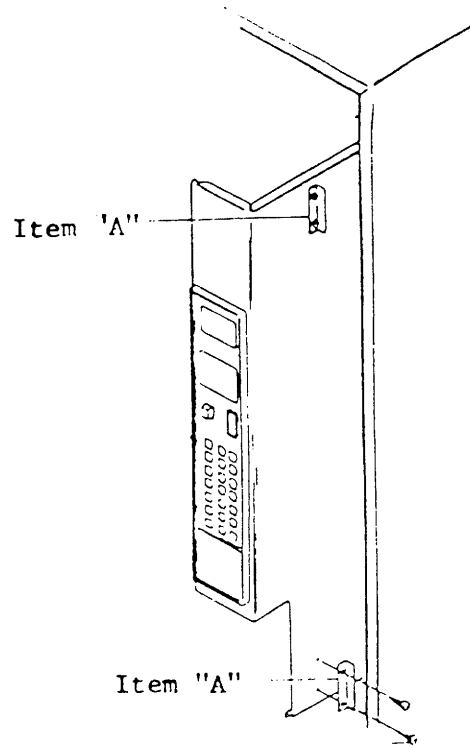

FIGURE 1
1. Remove two (2) control panel stops located on the control panel weld assembly. (See Figure 1, Item A)
Shown in Figures 1 & 2 are two properly grounded and polarized wall outlets. One is a three wire grounding type wall outlet (See Figure 1) and one is a two wire wall outlet (See Figure 2) with an adaptor in place. To make a polarity check, use a volt-ohm meter or a 115 volt neon test light as shown. The hot side of the circuit should always be counter clockwise from the grounded terminal with the grounded terminal at the bottom. If the polarity at the wall outlet shows any other way, than shown in the figures indicated below, the outlet needs to be rewired.